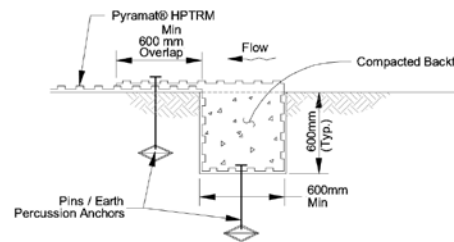

FIGURE 8: TERMINAL TRENCH (UPSTREAM) DETAIL
- Excavate terminal trench 600mm wide x 600mm deep, minimum across the channel at the upstream end of the project (see Figure 8). Deeper terminal trench and/or hard armoring may be required in channels that have the potential for scour.
- Pin, anchor, backfill and compact upstream end of mat in terminal trench (see Figure 8). Terminal trench pinning devices should be spaced on 300mm centers and earth percussion anchors should be spaced on 1.2m centers (see Figure 8). Unroll mat in downstream direction over compacted trench with a minimum 600mm lap. Secure lap with pinning devices on 300mm centers and earth percussion anchors on 1.2m centers.